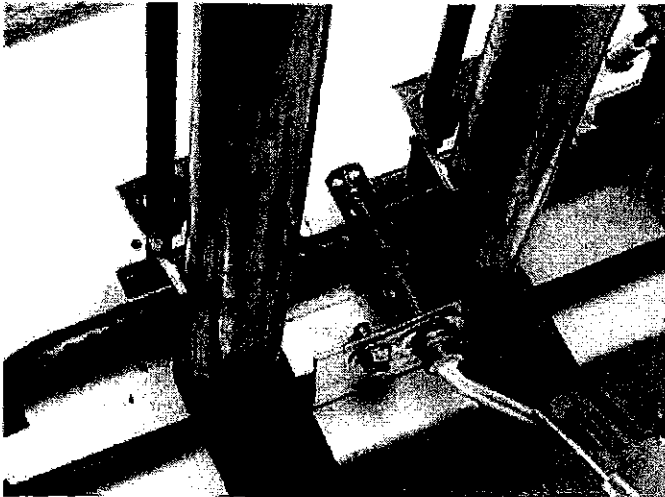

FIGURE 1: Proper Installation of Igniter & Bracket
7. Attach the new igniter to the new bracket with the hex head screw provided (021-16019-000). The correct bracket for these models is shown in Figure 1.
8. Carefully install the new bracket and igniter using the same path as used in removing the old bracket (a mirror can be helpful). The new bracket slides between the heat shield and the black burner support rod. The proper installation of the new igniter and bracket can be seen in Figure 1 .